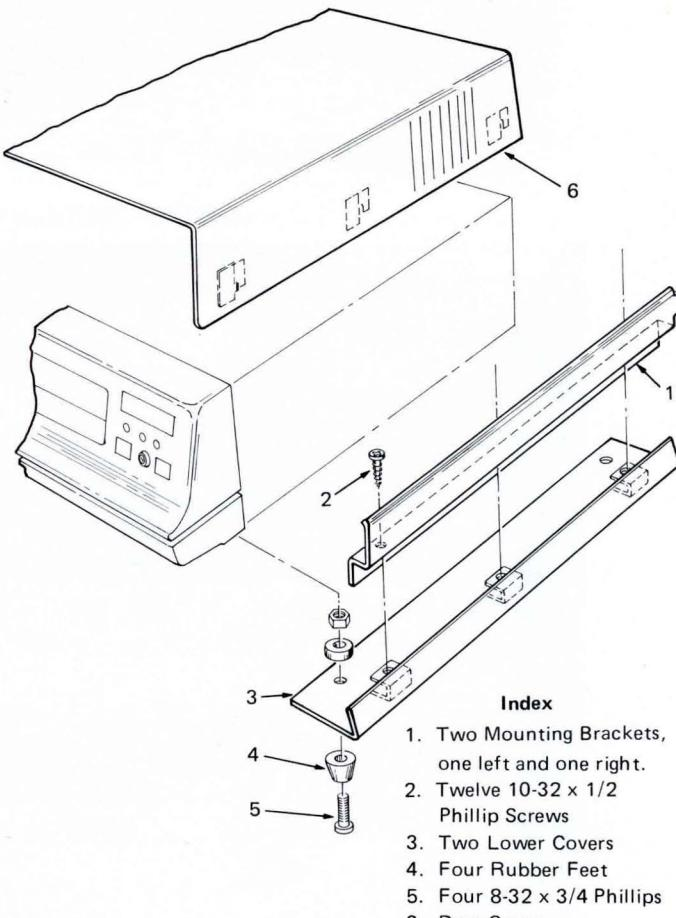
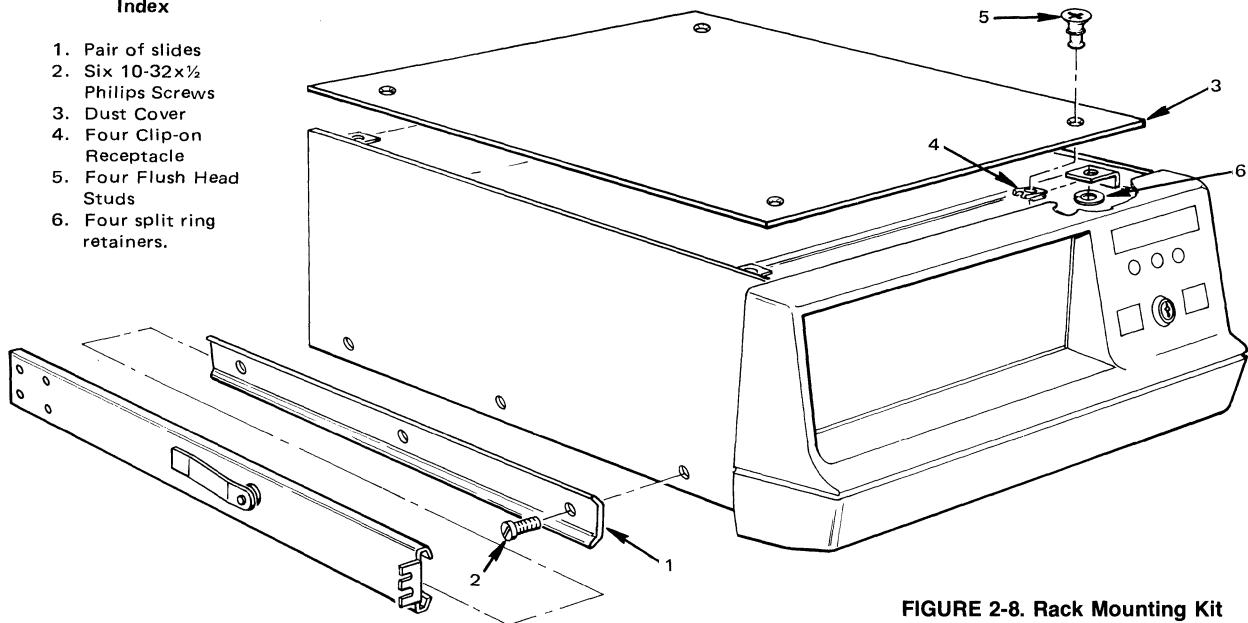

FIGURE 2-7. Table Top Kit
FIGURE 2-8. Rack Mounting Kit
The following procedures discuss converting the EXORciser from its table top version to its rack mounted version. Figure 2-7 depicts an exploded view of the table top kit and Figure 2-8 depicts an exploded view of the rack mounting kit.
- Remove the Table Top Kit from the EXORciser in the reverse order of the index numbers in Figure 2-7.
- Install the Rack Mounting Kit onto the EXORciser in the sequence of the index numbers in Figure 2-8.
The following procedures discuss converting the EXORciser from its rack mounting version to its table top version. Figure 2-7 depicts an exploded view of the table top kit and Figure 2-8 depicts an exploded view of the rack mounting kit.
- Remove the rack mounting kit from the EXORciser in the reverse order of the index numbers in Figure 2-8.
- Install the table top kit onto the EXORciser in the sequence of the index numbers in Figure 2-7.